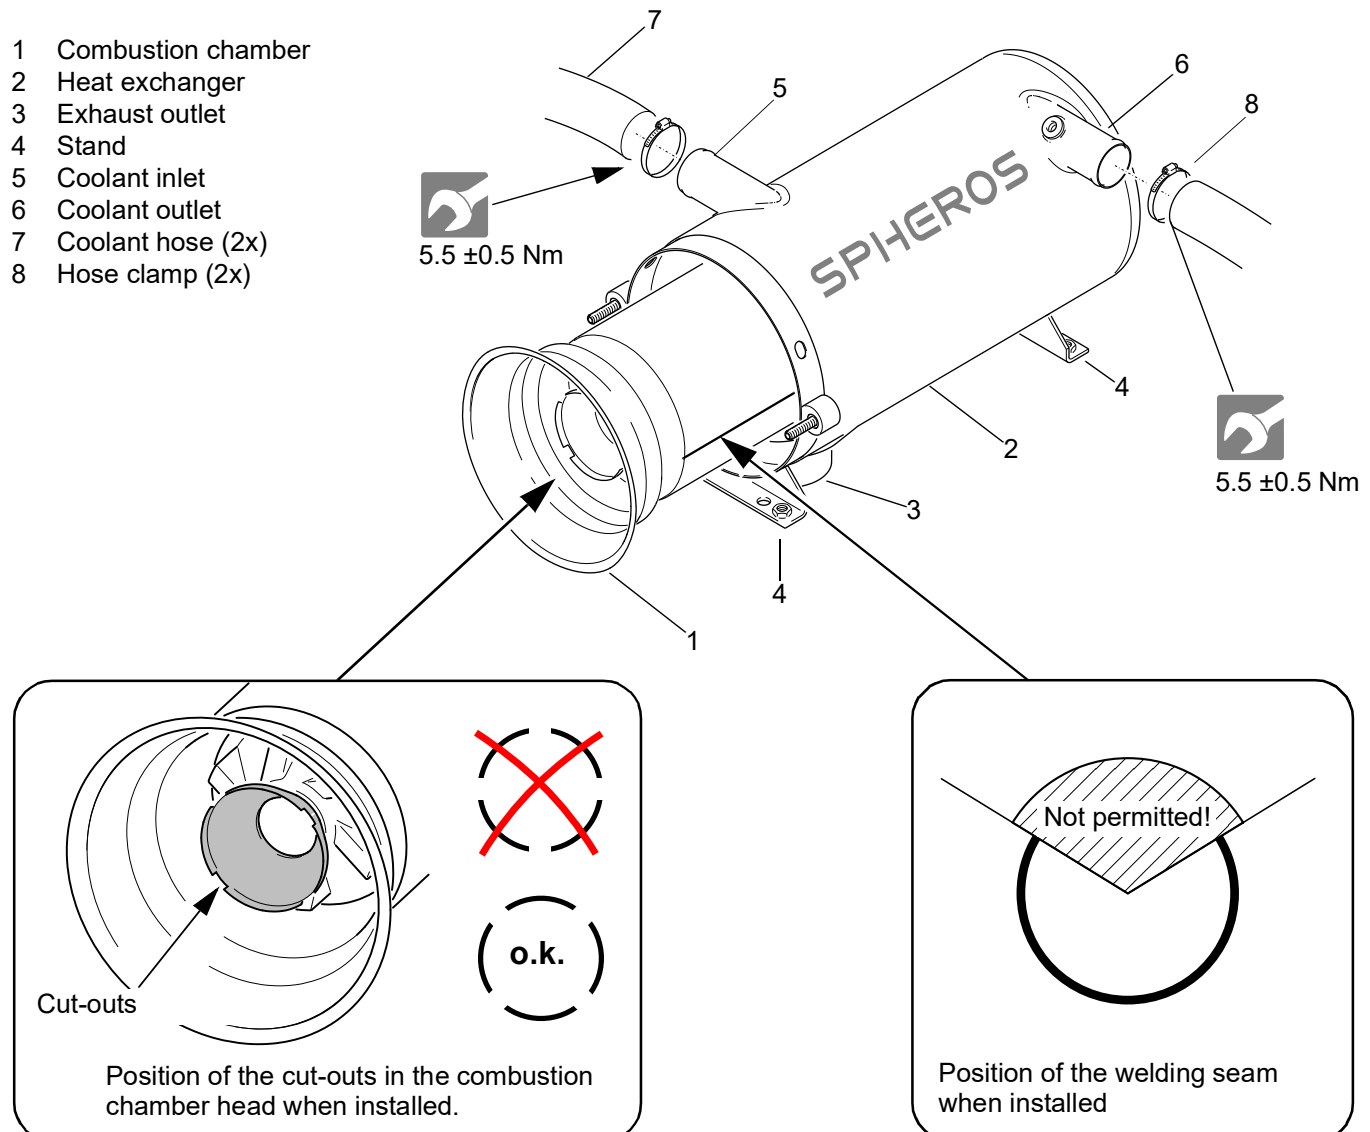

Fig. 806 Combustion chamber removal and installation
2. Pull the combustion chamber (1, Fig. 806) out of the heat exchanger (2) herausziehen.
1. Slide combustion chamber (1, Fig. 806) fully into the heat exchanger (2) against stop. Pay attention to
- The combustion chamber should be inserted into the heat exchanger in such a way that its welding seam is positioned between 2 and 10 o'clock (not upwards!) (Fig. 806). A position change during maintenance is permissible and affects the expected service life of the combustion chamber positively.
- Position the cut-outs in the combustion chamber head as shown in Fig. 806. Dripping from nozzle fuel is so collected in a reservoir between disc and burner head and will be burned at the next burner operation instead to soil the heater.
3. Remove combination nuts (2) and separate burner (1) from the heat exchanger.
4. If necessary, loosen the exhaust line clamp on the exhaust outlet (3, Fig. 806).
1. Position the combustion chamber (1) correctly into the heat exchanger (2) (see Fig. 806).
3. Bring heat exchanger (2) into installation position and mount stand (4) using screws, nuts and washers to the vehicle according to the mounting points used.
4. If necessary, secure the exhaust line using a clamp to the exhaust outlet (3).
5. Fit coolant hoses (7) onto the coolant inlet (5) and the coolant outlet (6) and secure with hose clamps (8).